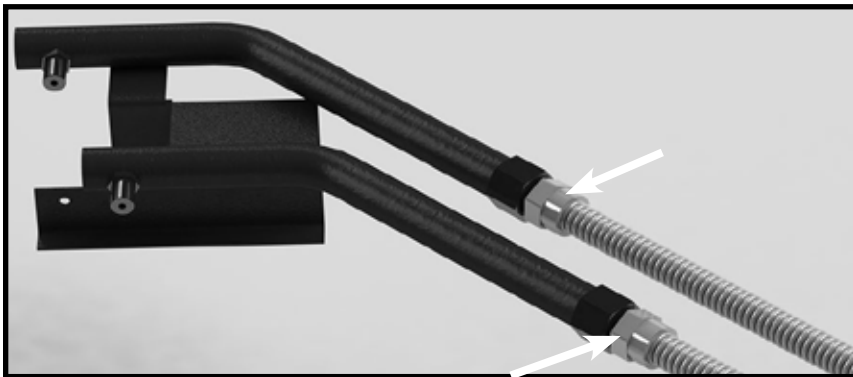

Figure 3: Attach main gas supply tubes from the "T" to manifolds.
3. Attach the manifold supply tubes from the "T" to the fittings on the two manifolds(Figure 3)